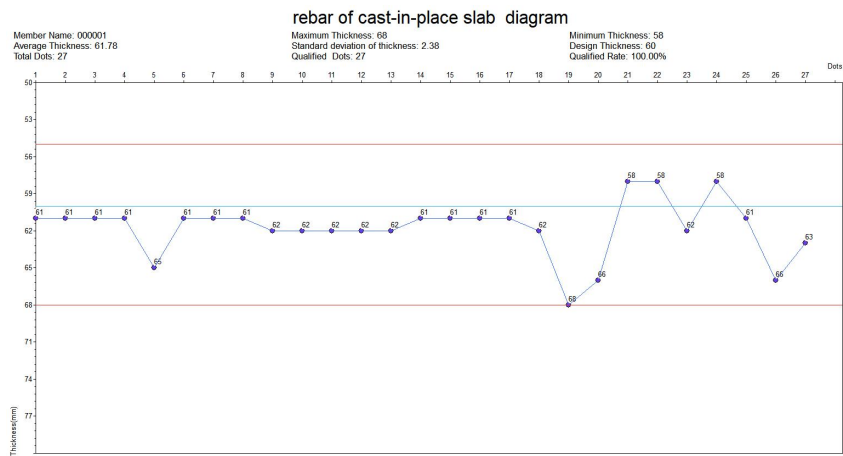

Figure 4.12
(1) General scan: when users view an object of general scan, the interface shown in Figure 4.12 will be displayed, where the Y coordinate represents thickness of protective layers, the X coordinate represents test points, each circle represents a rebar, the blue circle represents it is within the allowable upper and lower deviation range, the red circle represents it is below the allowable deviation, and the yellow circle represents it is above the allowable upper deviation.